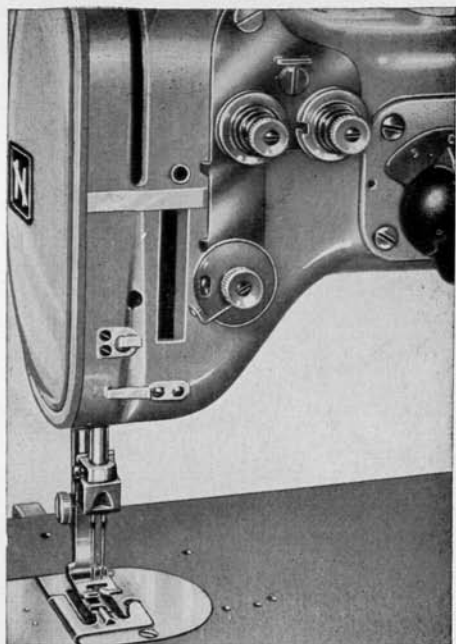

Fig. 39
- twin-needle clamp (fig. 39),
- double tension (fig. 39).